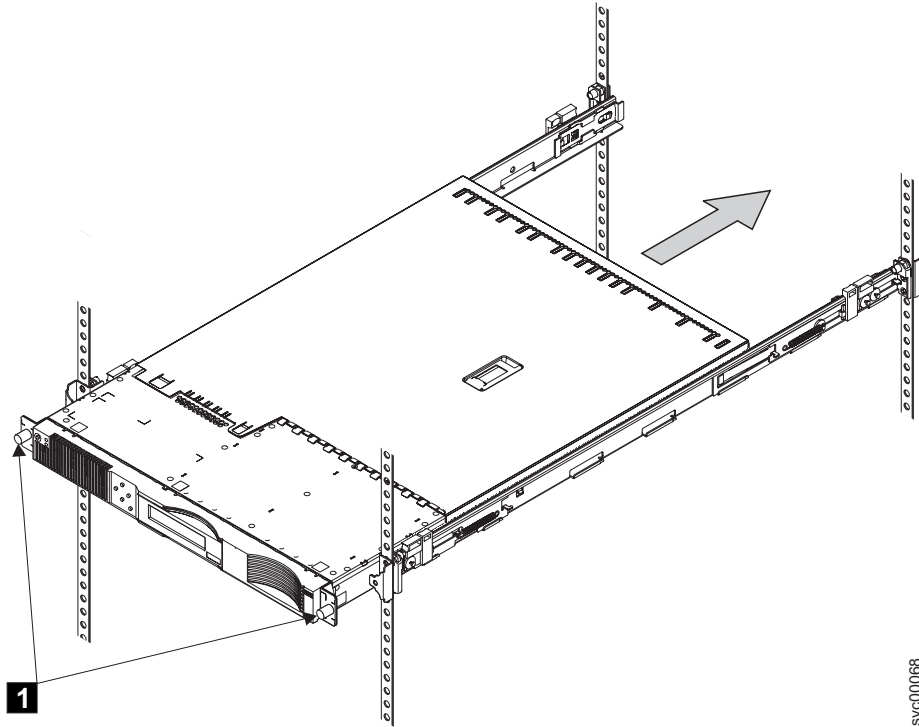

Figure 27. Attaching the SAN Volume Controller 2145-4F2 with the front screws
2. Screw in the two front screws (**1** in Figure 27 on page 50).
Note: The front of the rail assembly looks different from the front, as you can see in Figure 27 on page 50.